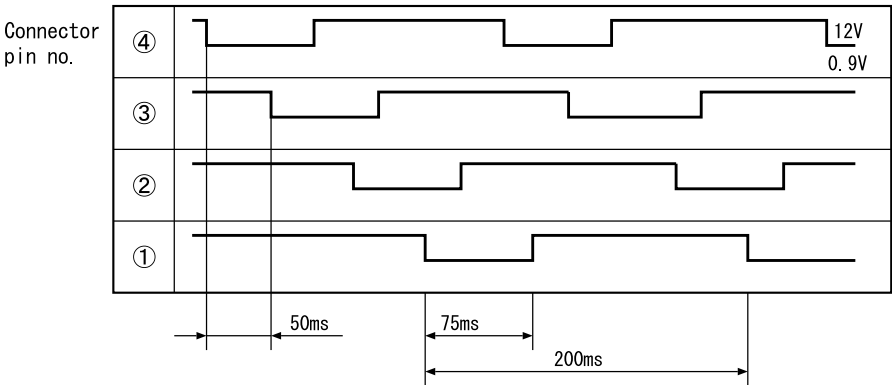

Fig. 6-2
- Relationship between power switching direction of phase and open/close direction is shown below. When power is supplied, voltages at pins④to①of CN15 are about 0.9V and 12V when no power is supplied. When power is reset, initial operation is performed for 10 or 20 seconds. During initial operation, measure all voltages at pin④to①of CN15 by using a multimeter. If there is any pin with voltage that has not changed from 0.9V or 12V, expansion valve or microcomputer is broken.
- Fig.6-2 shows logic waveform when expansion valve is operating.